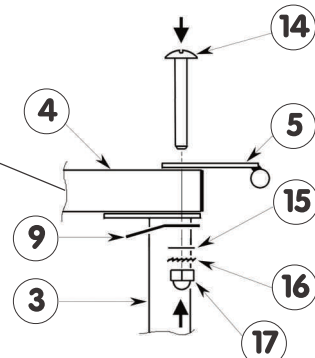

Figure 3
- 3 - Carefully position the hand-rail plate (5), the adjustable leg (2) + (3), and the clamping plates (9) in the direction shown by the details on Figure 3, before attaching the assembly using screws (14), (15), (16) and (17).